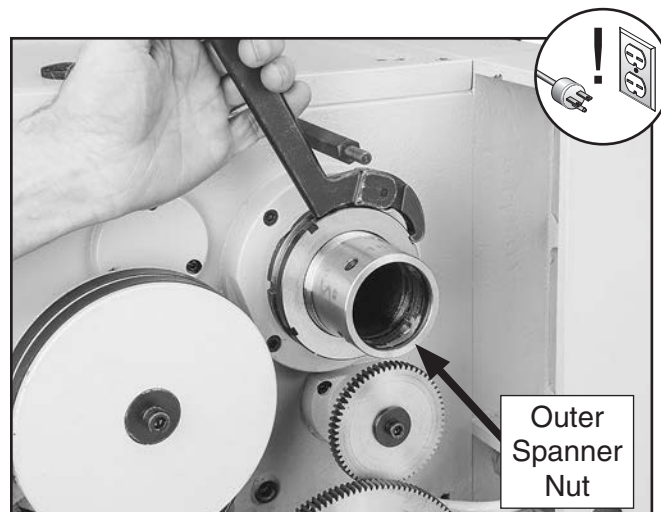

Figure 137. Loosening outer spanner nut.
5. Using a spanner wrench, or hammer-and-punch, rotate outer spanner nut (see **Figure 137**) counterclockwise and remove it.